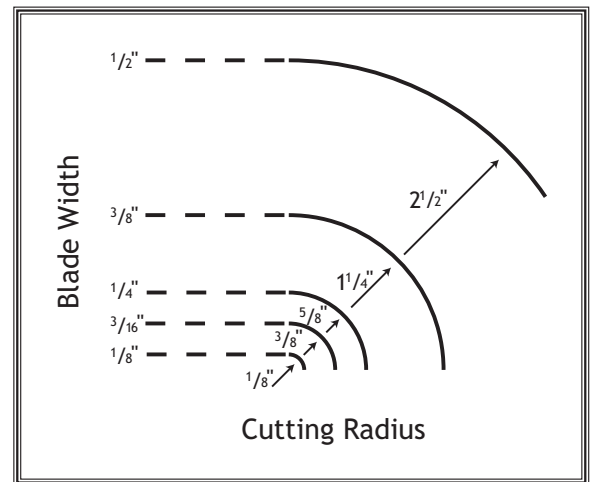

Figure 48. Blade width in relation to cutting radius.
- **Curve Cutting:** Use the chart in **Figure 48** to determine the correct blade for curve cutting. Determine the smallest radius curve that will be cut on your workpiece and use the corresponding blade width.